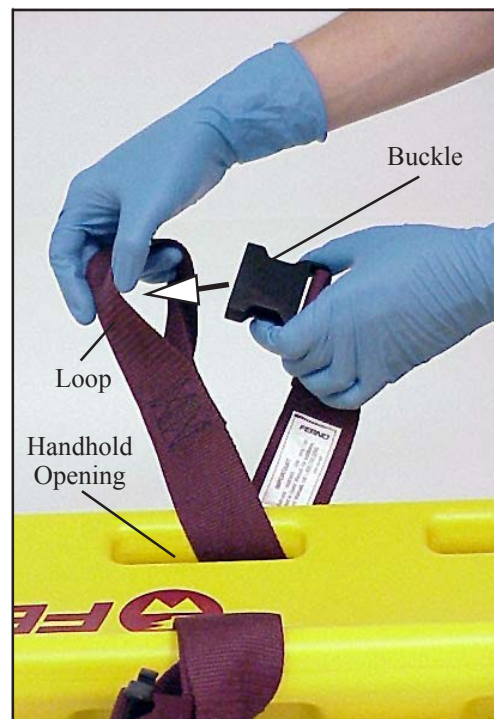

Figure 12 - Attaching a Two-Piece Restraint
2. Pass the looped end of one restraint piece upward through a handhold opening on the stretcher frame (Figure 12).
3. Hold the loop open and thread the buckle of the restraint through the loop (Figure 12).